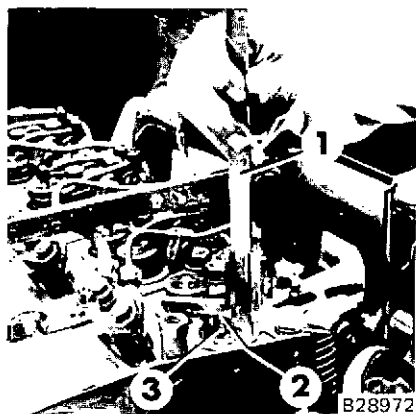

Fig. 1
4. Apply depth gauge 1 or dial gauge to inlet valve stem 2 at top (Fig. 1).